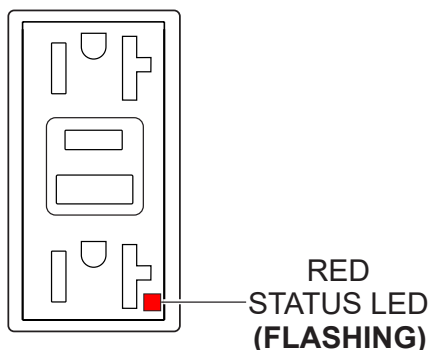

Figure 76. GFCI Receptacle (Red Flashing LED)
6. If the status LED (Figure 76) is **flashing (RED)**, **DO NOT** use the GFCI receptacle. Replace it immediately.